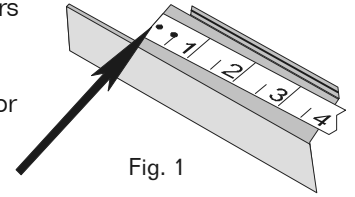

Fig. 1
1) The left & right z-bars are notched for ease of installation. Measure the inside of each side of the opening, then mark the bottom of the z-bars measuring from where notched (fig.1) and cut off. Fasten in place leaving 1/16" space for header with two (2) # 8 x 1" screws in each for the present. (you may need to adjust them later.)